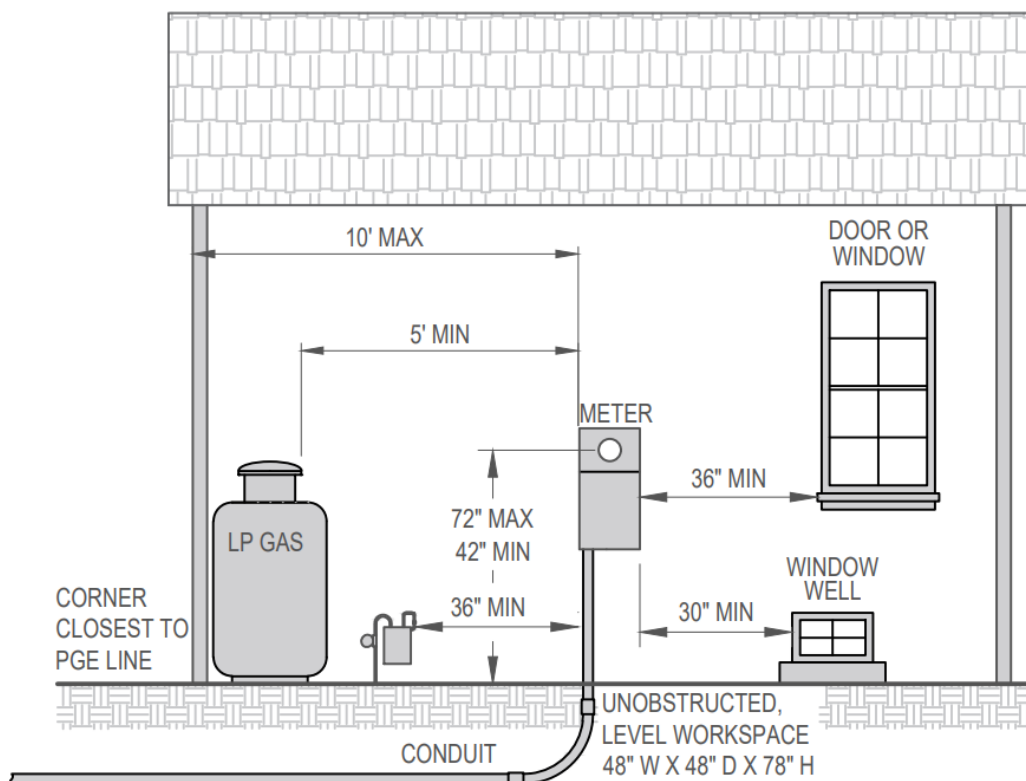

Figure 56. Underground Service Extension (STD-D-6004)
- The service entrance riser must be in line with the left side of the entrance knockout for 100A and 200A services. All three positions are accepted on a 320A meter enclosure (see Figure 56). For detailed clearance requirements, see Section 5.